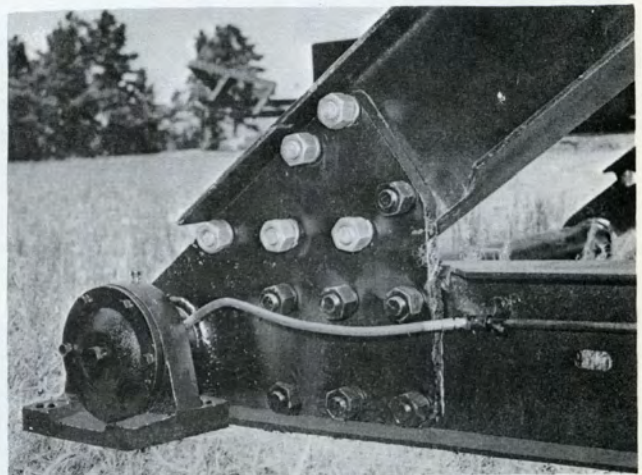

Figure 11
7. Figure 11 - Samson Post Bearing Ground Oiling Hoses